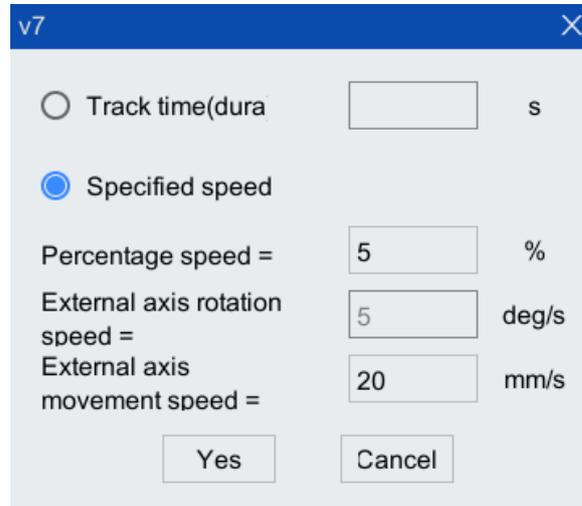

Figure 5-16 "v" variablesetting box
Step4.For the speed parameter v, you can enter the value directly in the edit box to complete the speed percentage setting. You can also click <...> button to modify the specific velocity value in "v" variable setting box, as shown in Figure 5-16.
Step8.The text box behind the trajectory time dura is read-only. The displayed data needs to be set in the "v" variable configuration interface as shown in Figure 5-16. After modification, click the <Yes> button.
Step10.Click the <Insert > button in Figure 5-16, and the instruction is inserted successfully.